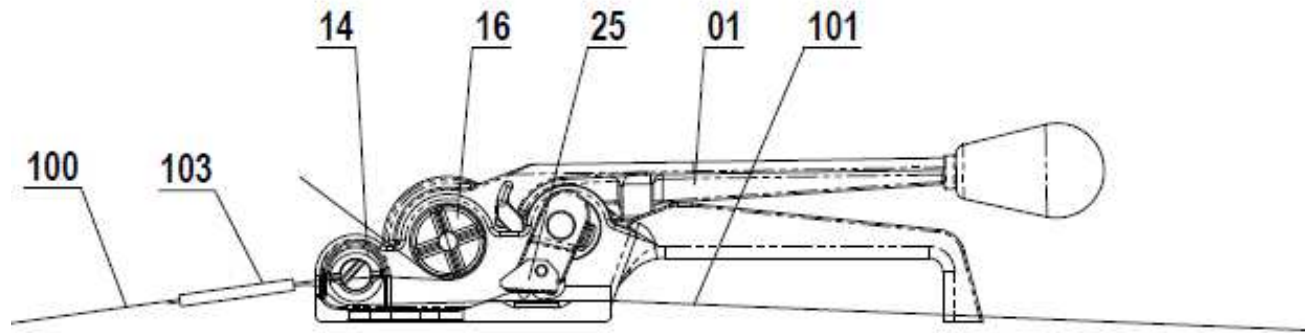

Fig. 6
5. Once the joint is secure the strap is ready to be cut. Push down on the **Tension Handle 01** until the strap is cut and slide the tensioner to the right to release the strap from under the **Gripper Foot 25** as shown on Fig. 6. The operation cycle is now complete.